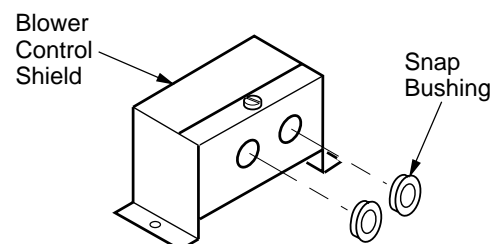

Figure 14 - Installing Snap Bushings
- Install snap bushings found in hardware kit into both holes in rear of blower control shield (see Figure 14).